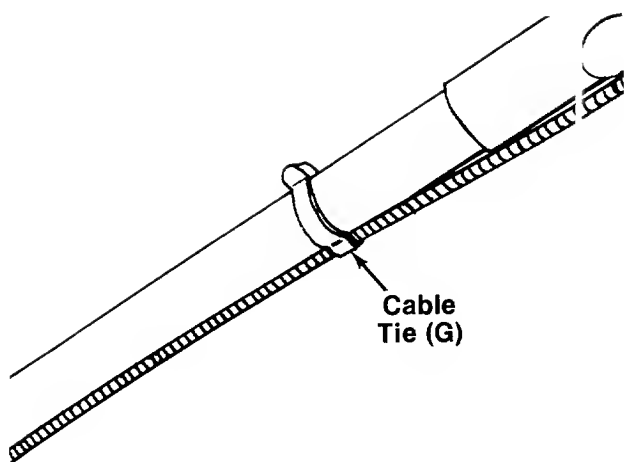

FIGURE 7.
14. Secure throttle control and brake cables to upper and lower handles with cable ties (G). See figure 7.